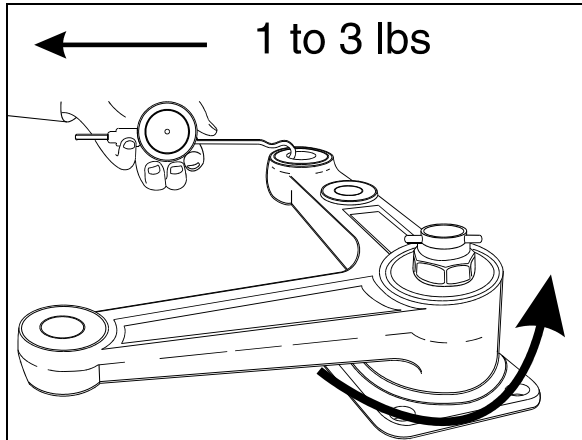

FIGURE 13: BELL CRANK 16045
4. Unscrew nut until bell crank or idler arm starts to turn by the application of 1 to 3 pounds load (Fig. 13).